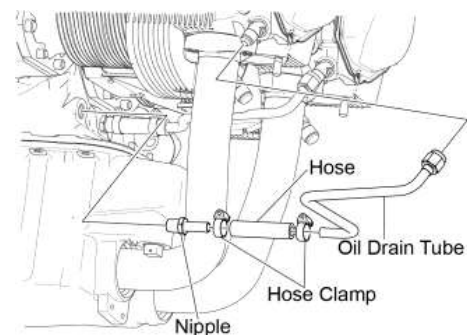

Figure 38
- (1) Connect a new hose to the nipple (Figure 38) in the crankcase.
- (2) Install and tighten a hose clamp on the hose closest to the crankcase.
- (3) Connect the oil drain tube to the elbow at the cylinder with a flange nut. Torque the nut per the latest revision of the *Service Table of Limits - SSP-1776*.
- (4) Connect the new hose to the drain tube assembly.
- (5) Install and tighten a hose clamp on the hose and oil drain tube connection.
- (6) Torque both hose clamps per the Special Torque Requirements Tables in Part 1, Section V in the latest revision of the *Service Table of Limits - SSP-1776*.